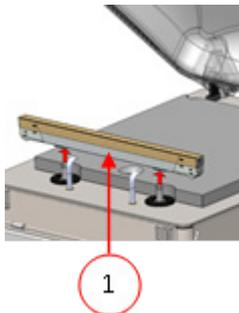
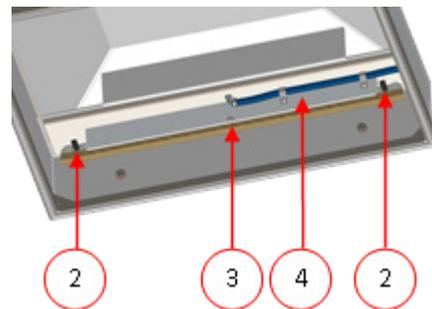

Figure 25: Removing the Sealing Bar (Plastic Lid)
Figure 26: Removing the Sealing Bar (Metal Lid)
On machines with a plastic lid, the sealing bars are mounted on cylinders (*Figure 25: Removing the Sealing Bar (Plastic Lid)* on page 69). On machines with a metal lid, the sealing bars are mounted in the lid (*Figure 26: Removing the Sealing Bar (Metal Lid)* on page 69).
1. Remove the sealing bar by lifting it from the cylinders. See *Figure 25: Removing the Sealing Bar (Plastic Lid)* on page 69.
Lift the sealing bar from the cylinders. See *Figure 25: Removing the Sealing Bar (Plastic Lid)* on page 69.
See *Figure 26: Removing the Sealing Bar (Metal Lid)* on page 69. Remove the sealing bar from the holders (4) by disconnecting the two electrical connector plugs (2) and removing the M6 screw (3).